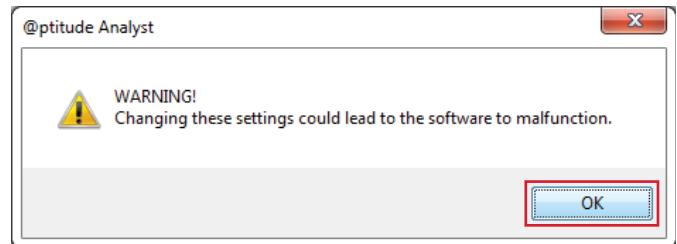

Fig. 16. Warning window.
- From the warning window, click **OK** (→ fig. 16).